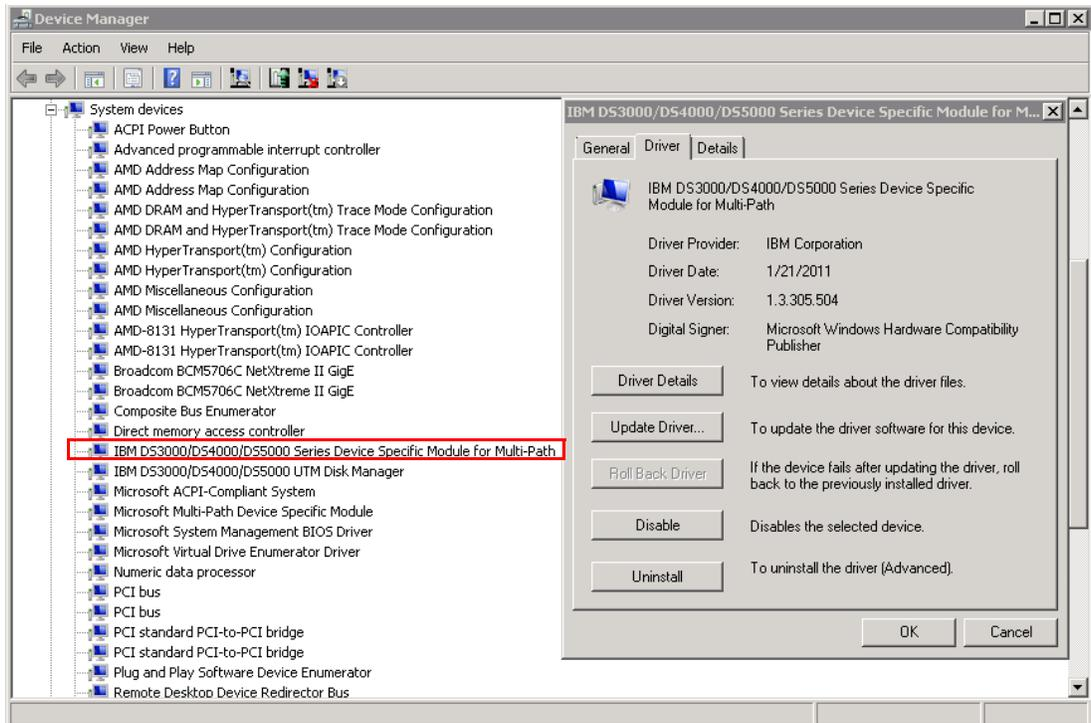

Figure 4-16 Verifying DSM driver level
3. Right-click it, select **Properties**, and check the **Driver** tab for the version, as shown in Figure 4-16.